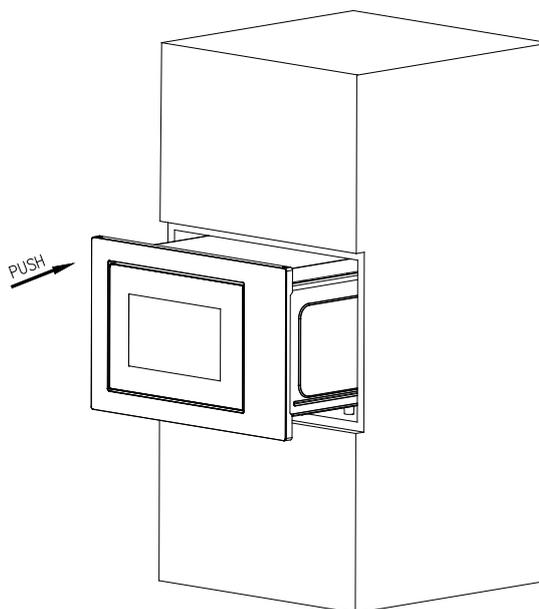

Fig.1
A) Put the microwave oven into built-in cabinet and push it forward to the end. (Fig.1)